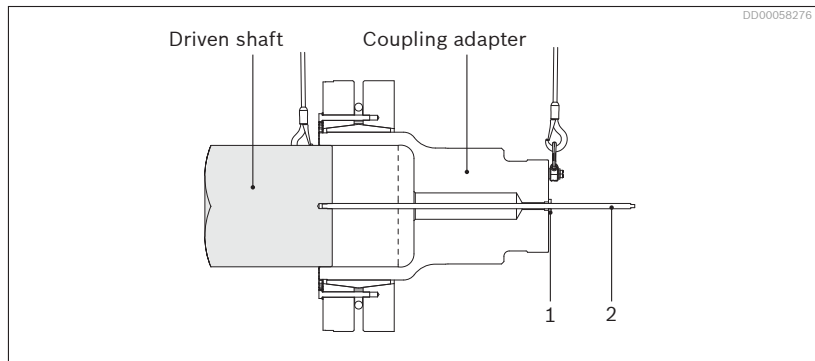

Fig. 37: Mounting the coupling adapter on the driven shaft with the Assembly tool.
4. Pass the assembly tool through the centre of the coupling adapter and screw it into the driven shaft by using the key handle in the end of the tool, see Fig. 37: *Mounting the coupling adapter on the driven shaft with the Assembly tool*.